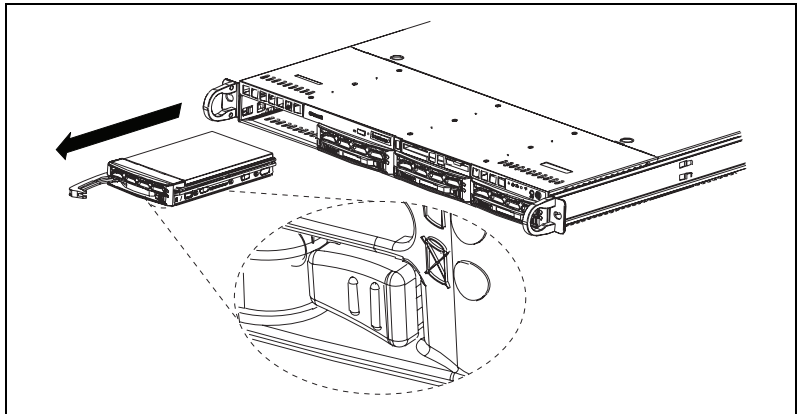

Figure B-25. Removing SCA Drive Tray
2. Pull the SCA drive tray out from the chassis, as shown in Figure B-25.